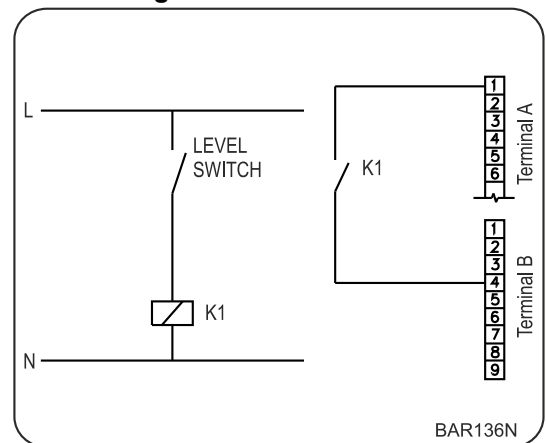

Figure 27
- This option is not obligatory. However, it is advisable to install a level switch. This level switch must be connected to the microprocessor by means of a potential-free contact. Refer to *Figure 27* .